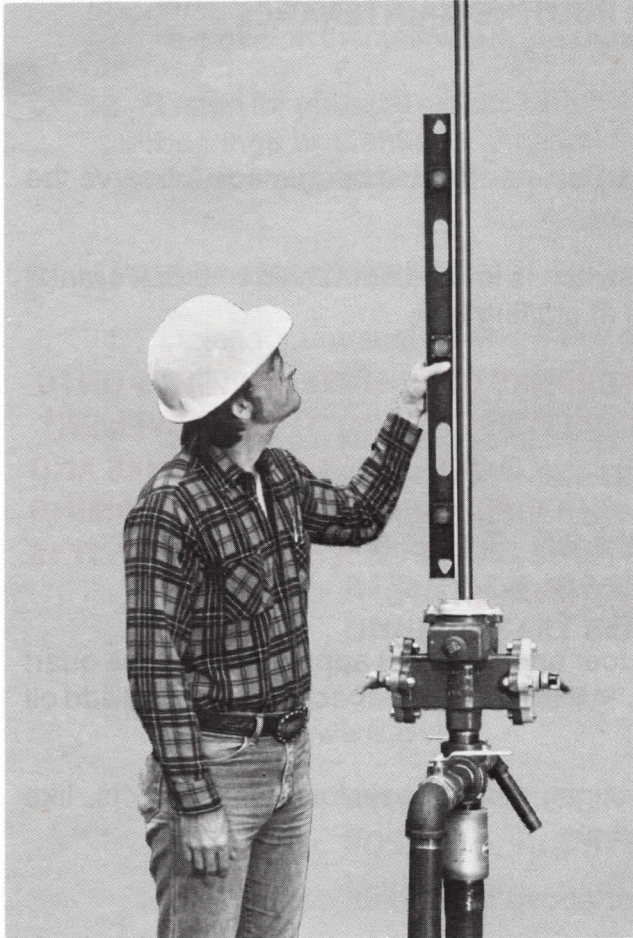

Fig. 22
34. If stuffing box is under pressure, move horsehead to lowest position and check polished rod for vertical with an accurate level. Re-position horsehead at highest position and check polished rod for vertical, again. If a need for adjustment is indicated, move entire unit on foundation to correct, Fig. 22.
17. Check alignment of unit with wellhead per Figs. 22 or 23, page 15.